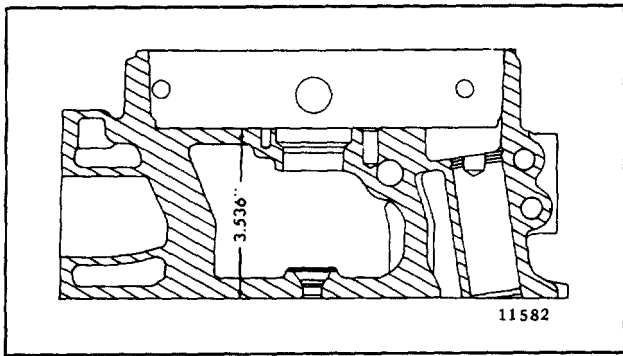

Fig. 9- Minimum Distance Between Top and Bottom Faces of Cylinder Head
- c. If the head is to be refaced, remove the injector tubes prior to machining. Do not remove more metal from the fire deck of any cylinder head below the minimum distance of 3.536" (Fig. 9).